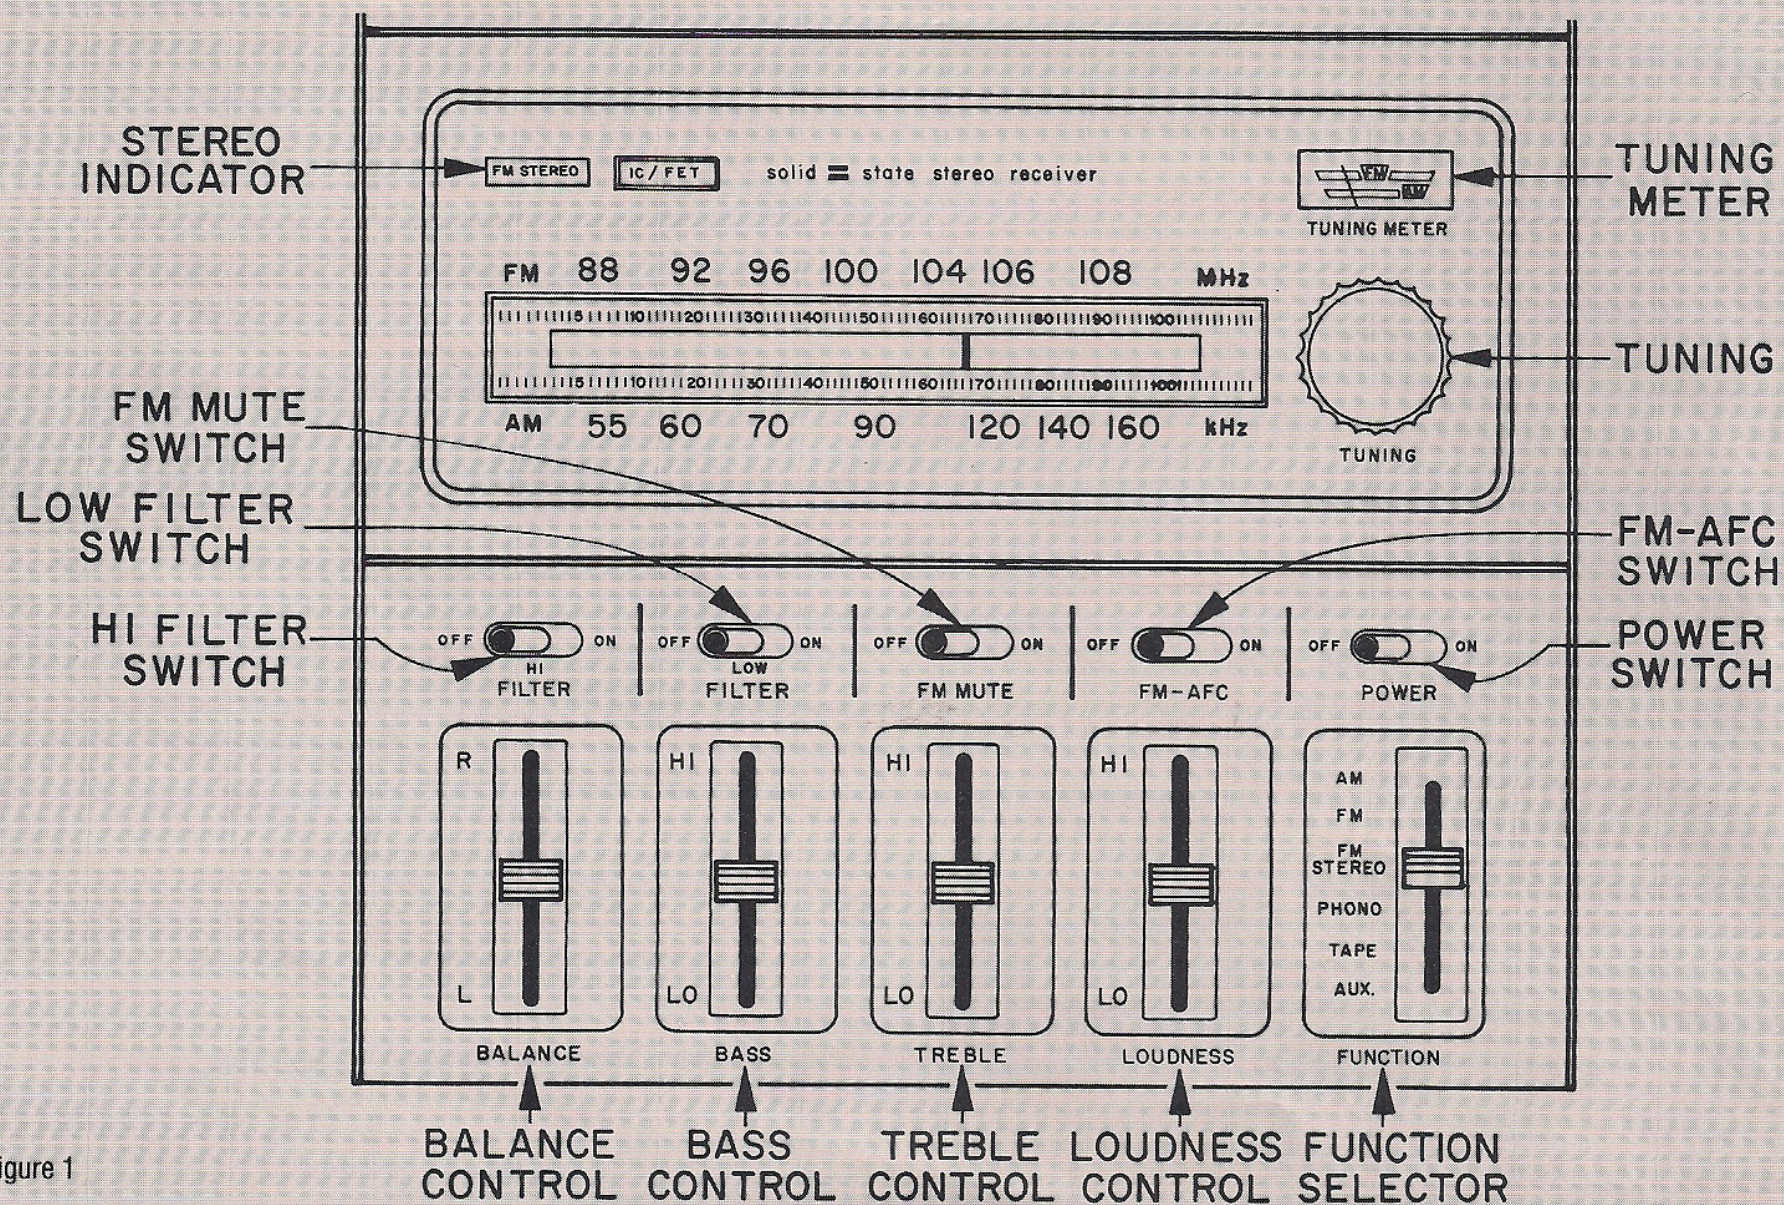

Figure 1
## TUNER/AMPLIFIER SECTION— CONTROLS AND TUNING (Fig. 1)
Mode Selector (STOP, START, AUTO) on the record changer will control power to the changer and, if the POWER Switch (Fig. 1) is off, to the main unit.
7. Adjust LOUDNESS, BASS and TREBLE Controls (Fig. 1).